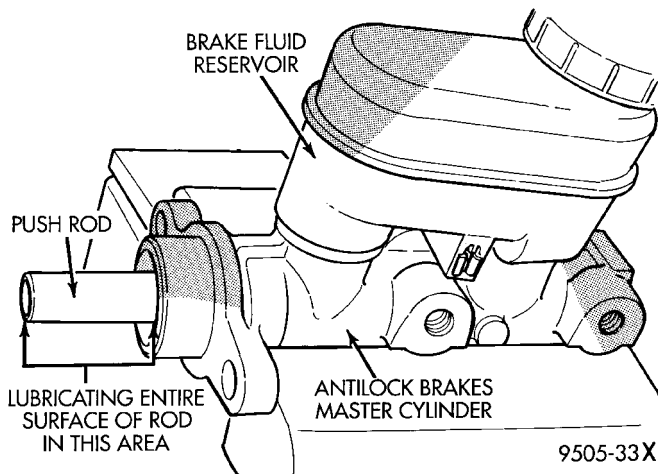

Fig. 120 Lubricating Master Cylinder Push Rod
(7) Lubricate master cylinder push rod as indicated in (Fig. 120) only using **Mopar Dielectric Grease—And No Substitutes**. Refer to the Mopar Chemicals Catalog to obtain the required lubricant.